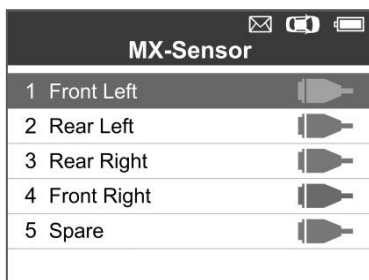
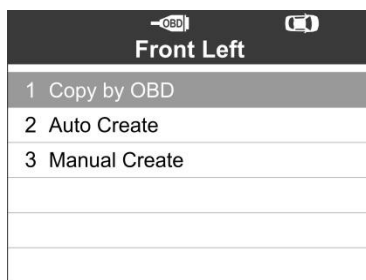

Figure 5-27
Figure 5-28
- 1) Follow the steps in Auto Create to select **MX-Sensor** to enter the Programming function. The OBD mark will appear on the right side of the screen (Figure 5-27). After selecting the specific wheel and pressing the **Y** button, the “Copy by OBD” option is available on the function menu (Figure 5-28).